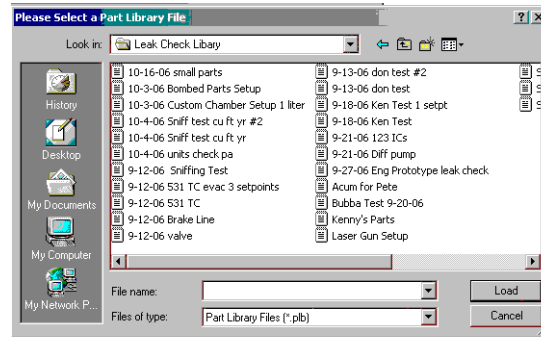

Figure 2-29 Save Dialog Box
3. Click **Load** and Figure 2-29 appears.